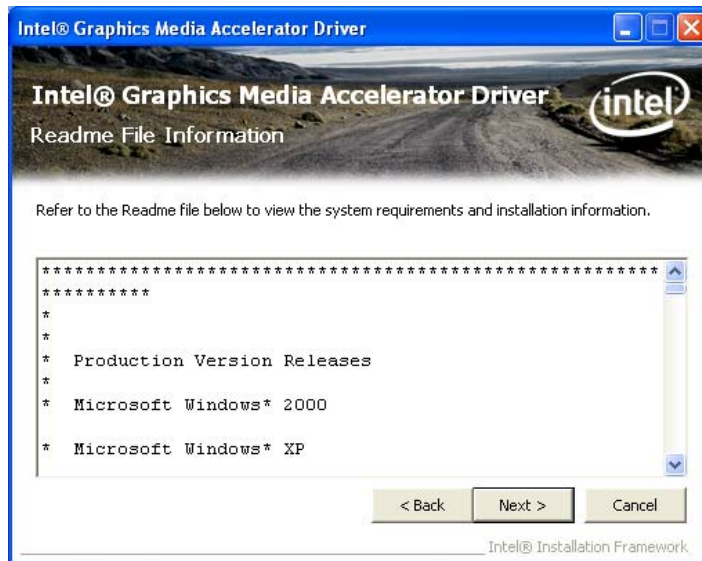

Figure 6-12: VGA Driver Read Me File
Step 10: The Read Me file in Figure 6-12 appears.